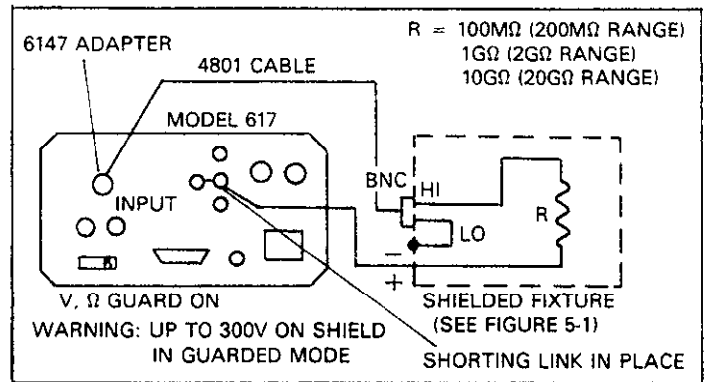

Figure 5-7. Connections for Ohms Verification (200MΩ, 2GΩ and 20GΩ Ranges)
- Place the 100MΩ resistor in the shielded fixture and connect the fixture to the instrument as shown in Figure 5-7. Note that the fixture is modified from the original configuration so that one side of the resistor is connected to the rear panel COM terminal.